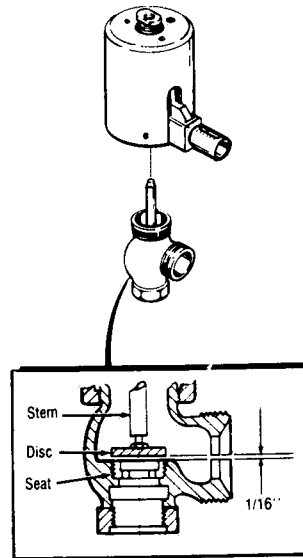

Figure 7-4. STEAM CONTROL VALVE ADJUSTMENT.
1. Screw valve seat (18) into body. (Hex side down.)
2. Replace stem and disc (17) in syphon (16), and screw bonnet onto body.
3. Position fork (9) on bottom plate (15). Insert pivot pin (10) and cotter pins.
4. Screw reinforcement (4) onto bellows, and fasten to cover with two screws (2).
5. Set lower spring plate (8), spring (7), and upper spring seat (6) in place. See that the lugs on the spring seat are properly positioned in the fork bearings.
6. Replace cover (1) and bellows (5), and secure cover with the four screws (3).
7. Lower this entire assemblage into position over the syphon, aligning the notches in the bottom plate with the lugs on the bonnet, to allow the bottom plate to seat on the bonnet. Replace screw (12).
8. Turn adjusting screw (13) fully counterclockwise, to remove all tension from the spring. Turn the stem protruding from the bellows to establish a clearance of 1/16 inch between the seat and the disc (Fig. 7-4). If valve was not removed from sterilizer, open side connection to see disc and seat.